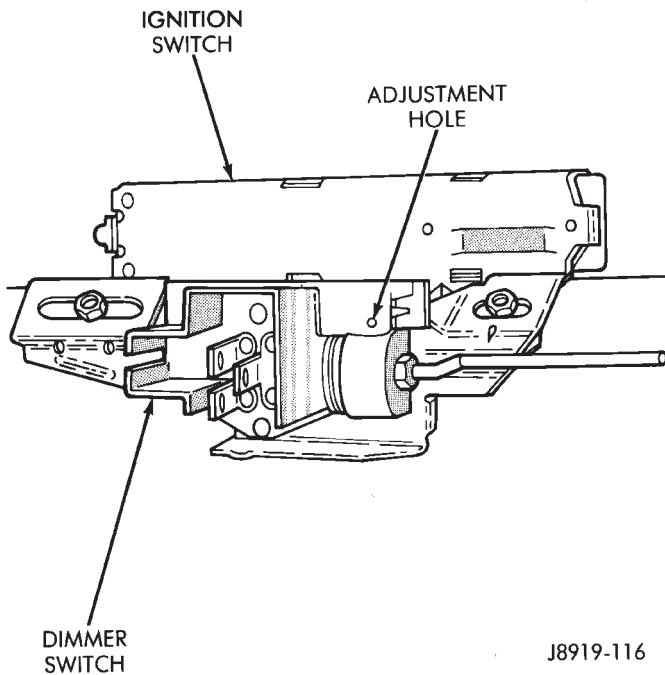

Fig. 7 Ignition Switch & Dimmer Switch
(22) Remove the ignition switch and dimmer switch (Fig. 7) from the lower end of the steering column.